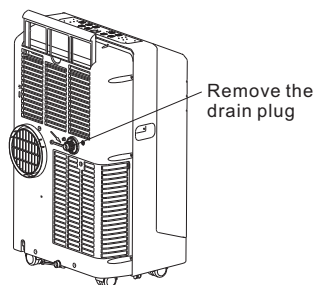

Fig. 23
- During dehumidifying modes, remove the drain plug from the back of the unit, install the drain connector(5/8" universal female mender) with 3/4" hose(locally purchased). For the models without drain connector, just attach the drain hose to the hole. Place the open end of the hose directly over the drain area in your basement floor. Please refer to Fig.23 & 24.
- Remove the rubber plug at the back of the unit and attach a hose to drain outlet. Place the open end of the hose directly over the drain area in your basement floor (See Fig.23 & 24).